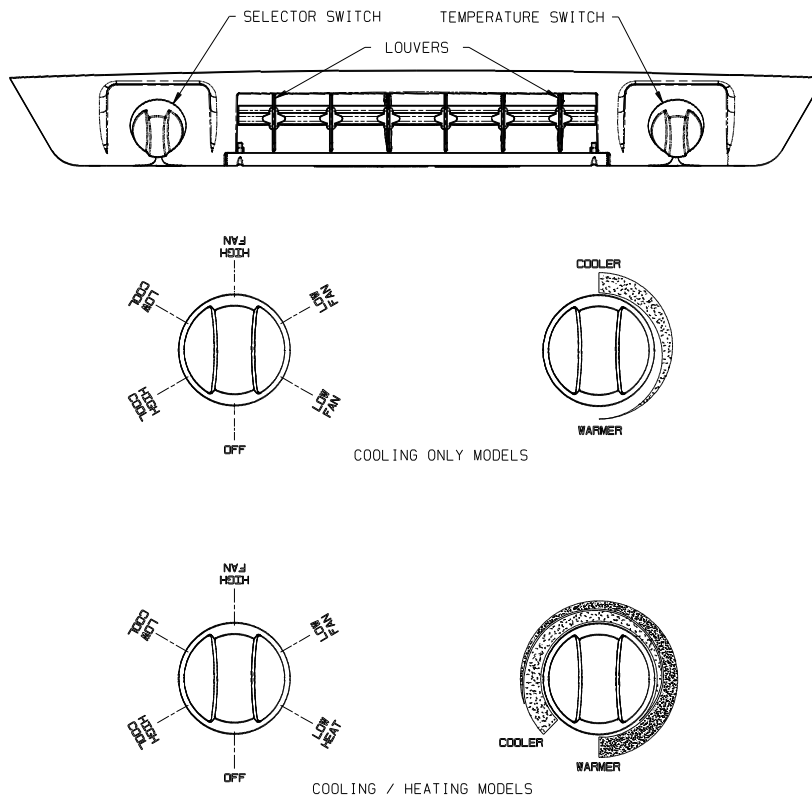

FIGURE 1
A. The Selector Switch – The selector switch determines which mode of operation the air conditioner will be in. By rotating the selector switch, the operator can obtain any system function desired. System functions vary depending upon options of both the roof top unit and ceiling assembly. Figure 1 shows selector switch location and lists all available functions by model.
For “Heat/Cool” models, the thermostat also controls the “ON” and “OFF” temperature settings of the heater assembly (See Figure 1).
- I. For Cooling (Refer to Figure 1, page 3).**
IV. For Heating (“Elect-A-Heat” Ceiling Assembly Model Only) Refer to Figure 1, page 3).
V. For Air Circulation Only (Refer to Figure 1, page 3).